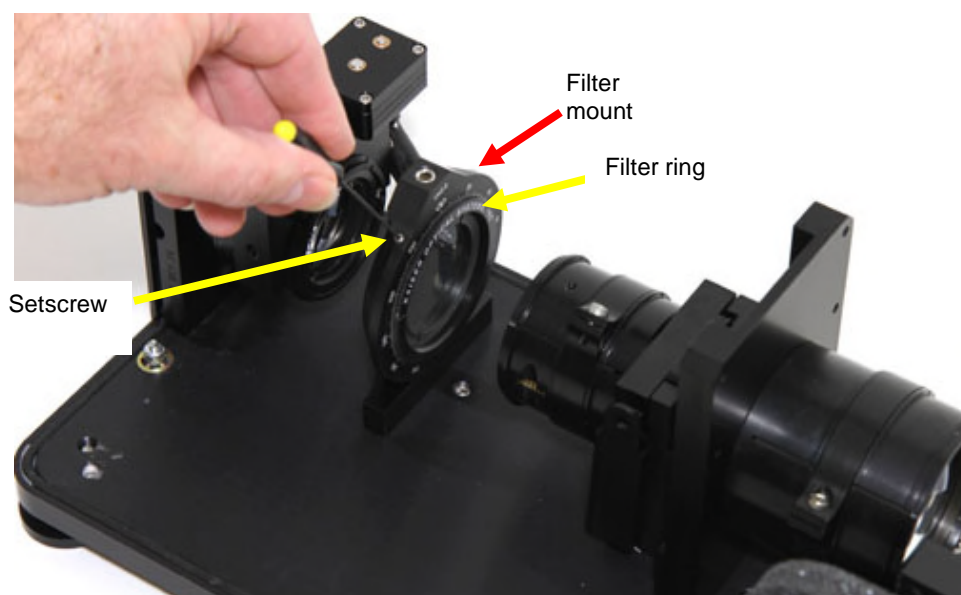

Figure 4-5. Installing or removing the notch filter.
- 1 Grasp the filter by the mounting ring (Figure 4-5).
- 1 Loosen the setscrew (Figure 4-5) using a 0.05" Allen key or ball driver.